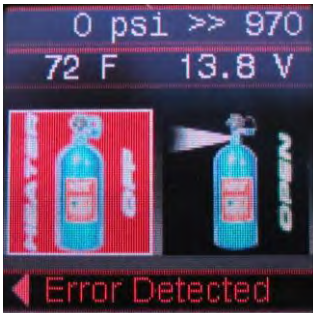
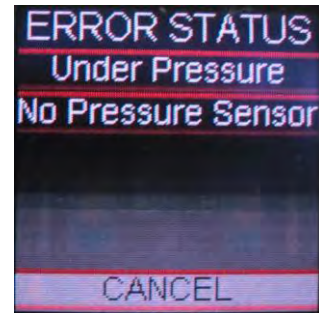

Figure 5
Figure 7
- The following are error codes that will show if there is a problem with the unit. If an error occurs, you will get an “Error Detected” message at the bottom of the screen (Fig. 5). To view the error, go back to the main menu screen, and click on “Error Detected” at the bottom of the screen. This will bring up the “Error Status” screen, which will show any errors present (Fig. 7).